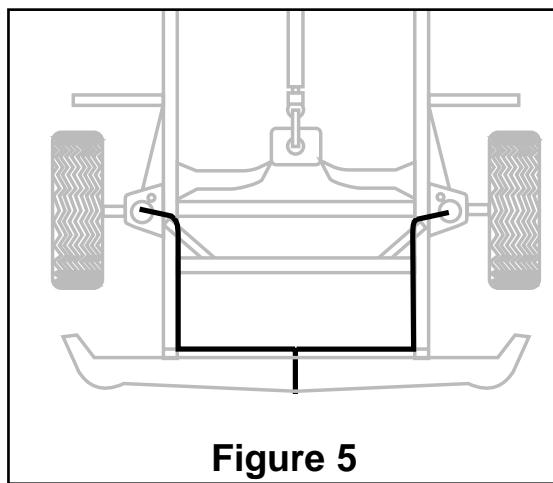

Figure 5
- J. Push the remaining air line over the last fitting on tee and route along frame to desired inflation valve location (Figure 5). Attach with plastic straps or wire.